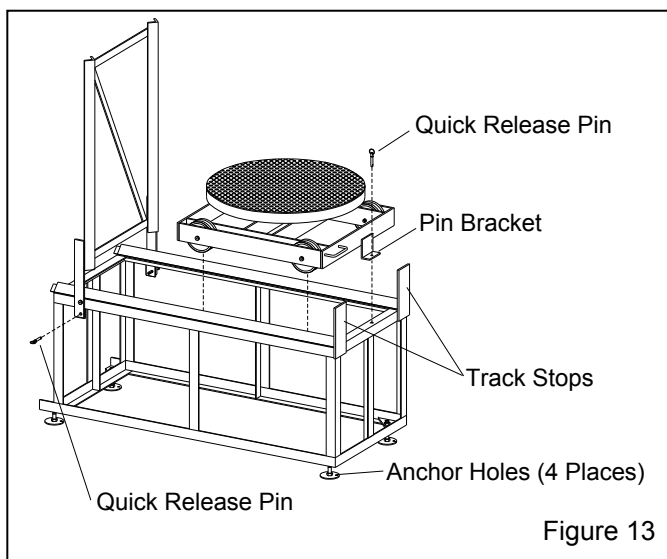

Figure 13
3.4.5 Turntable work cart and hinge track operations, refer to Figure 13